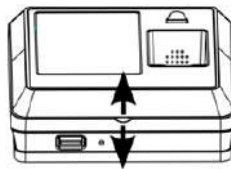
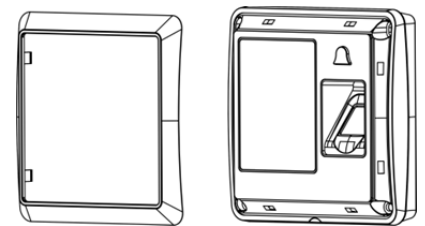

Figure 2
Figure 3
**2.1.2** Find the frame groove position (Figure 2), Gently remove the frame use hand (Figure 3);